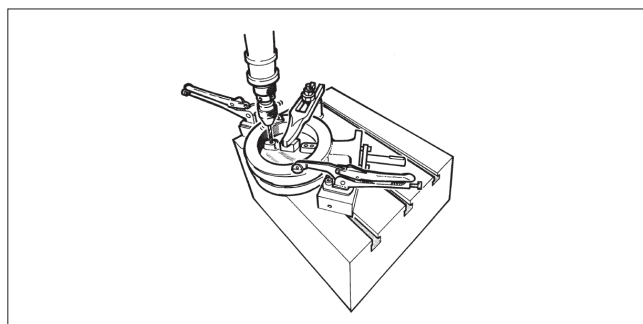

Fig. 15 Drilling the pins
- Remove the clamp ring (2) and seat ring (4) according to section 5.
- Set the valve horizontally on a sturdy surface so that the flat side of the disc lays against the surface (see Fig. 15).